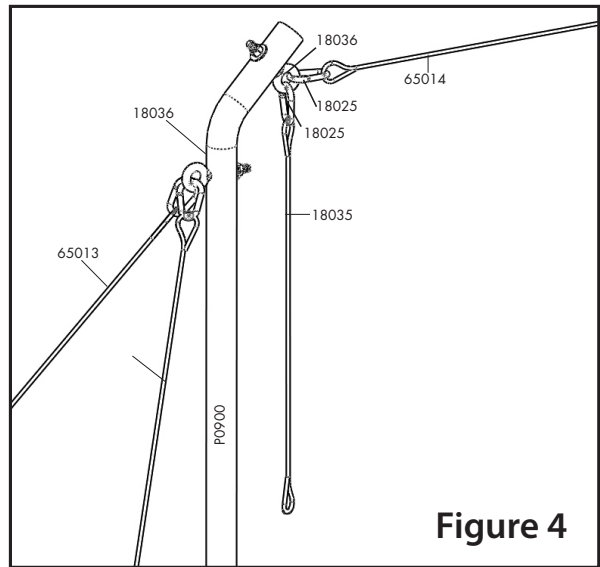

Figure 4
4. Clip one snap ring to one end of the two 12' yellow guy wires (65012) and the single end of the two 12' split cables (65013) (**Fig. 4**).